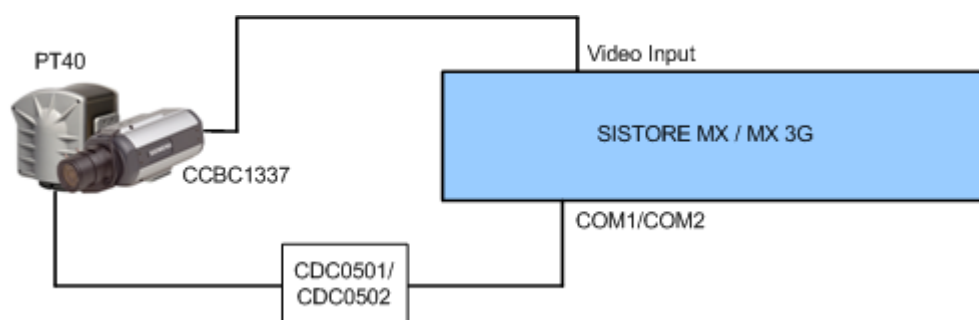

Fig. 19 Pan-and-tilt unit PT40 – system overview
1. Connect the pan-and-tilt unit to the SISTORE (see Fig. 19).
2. Connect the camera to the SISTORE (see Fig. 19).